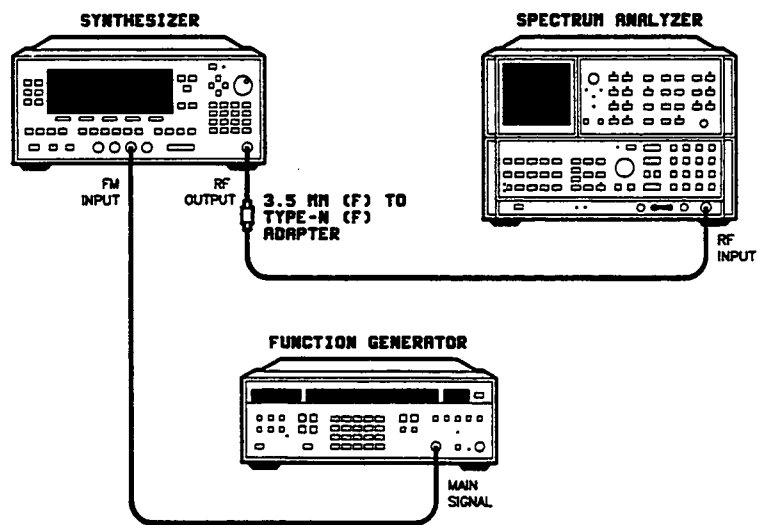

Figure 3-37. FM Gain Adjustment Setup
1. Connect the equipment as shown in figure 3-37. Preset all instruments and let them warm up for at least one hour.